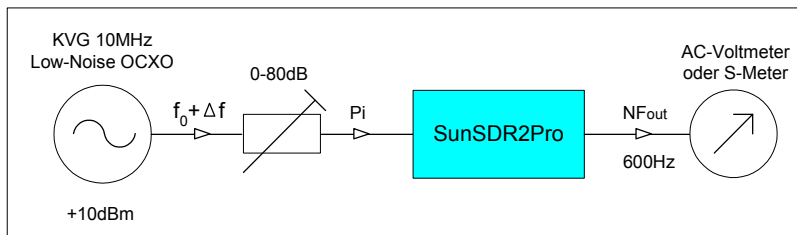

Bild 5: Messaufbau zur Ermittlung von RMDR und SBN
When mixing an RF signal with an oscillator, the oscillator side band noise also transmits to the resulting IF signal. This undesirable effect is called "Reciprocal Mixing Noise". Small signals near larger signals can be covered by the sideband noise of the oscillator. The receiver experiences a loss of sensitivity or dynamics (desensitization), which is referred to as Reciprocal Mixing Dynamic Range, RMDR. This problem is mainly known from analogue receivers (1). Modern SDRs work with very low-noise, crystal-controlled clock oscillators and in contrast to analog receivers, the phase noise remains the same even at high frequencies. For RMDR measurement, the receiver is adjusted in frequency intervals of 0.5 to 5 kHz to a low-noise reference signal and the signal level (Pi) is increased until the background noise of the receiver at the audio output increases by 3dB. As a reference oscillator, I use an Ultra Low Phase Noise 10MHz OCXO from KVG with an SBN of -168dBm / Hz at 1 kHz spacing. (Fig. 5 and 6).